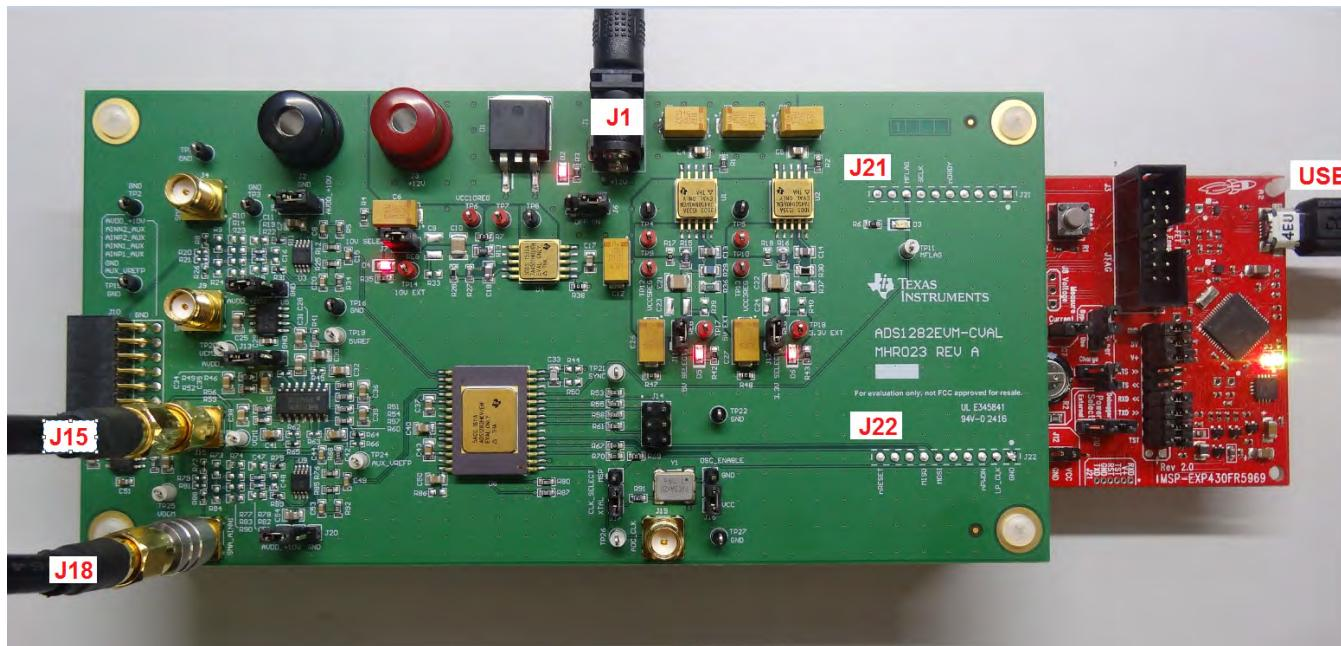

Figure 3. ADS1282-SP+MSP430 LaunchPad Hardware Setup
Figure 3 illustrates the necessary hardware connections to begin testing.
- Connect differential analog input signal to SMA's J18 and J15 with either a floating common mode voltage or a 2.5-V common mode voltage. An AP SYS2722 instrument is used as the signal source in the following examples. [Figure 3 has the outputs turned off in order to measure the noise floor.]